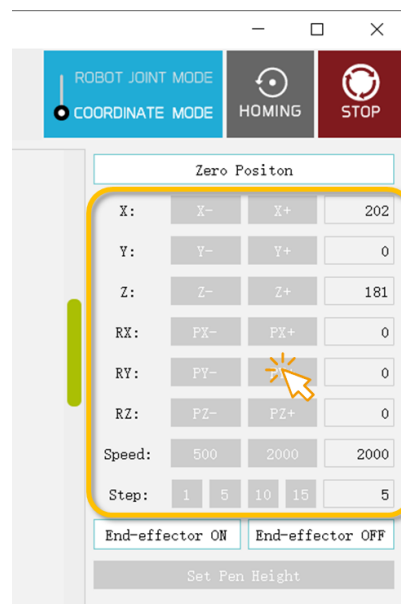

Figure 3.21 The COORDINATE MODE control buttons
(3) Click each of the control button on the right panel of the WLKATA Studio to control the spatial position and attitude (XYZ coordinate and RPY angle) of the End-effector of the manipulator. The speed can be adjusted by input **Speed** value, and the step can be adjusted by input **Step** value. As shown in Figure 3.21.